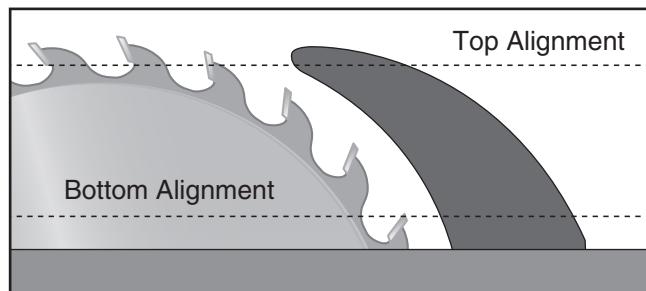
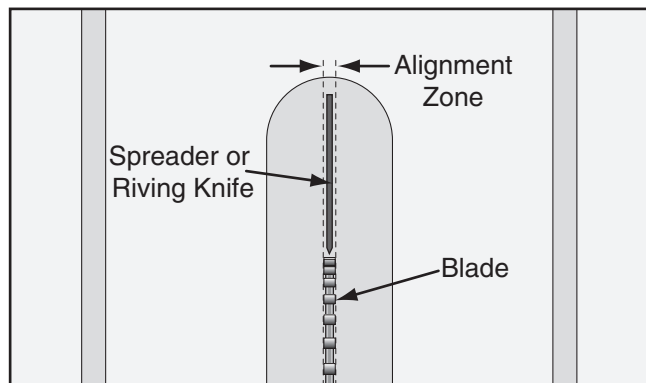

Figure 113. Example of checking top and bottom riving knife parallelism with blade.
Figure 114. Spreader/riving knife alignment zone.
3. Place straightedge against top and bottom of blade and spreader/riving knife, as shown in **Figure 113**. Spreader/riving knife should be parallel with blade at both positions and in the "Alignment Zone," as shown in **Figure 114**.